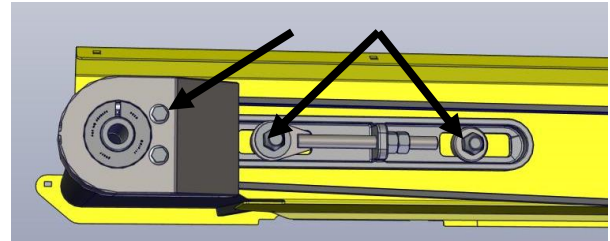

Figure 89
4. On the end of the deck, closest to the center deck, remove the shield, belt, and drive pulley. Figure 89
6. Remove bearings assemblies on the drive side by removing the two retaining bolts. Figure 89